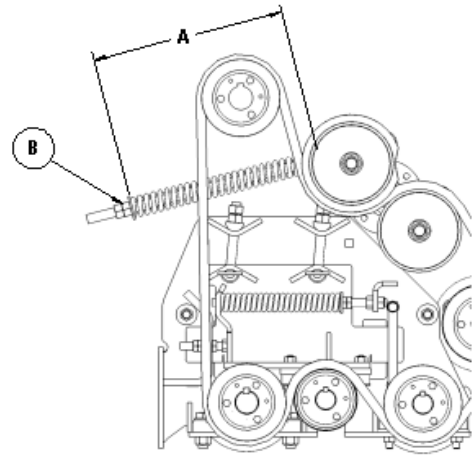

Figure 7-21: Front Drive Belt Adjustments
3. Adjust the nut (B), shown in Figure 7-21, until spring length (A) is 13.5 inches (34cm).
4. Lock double nuts (B).